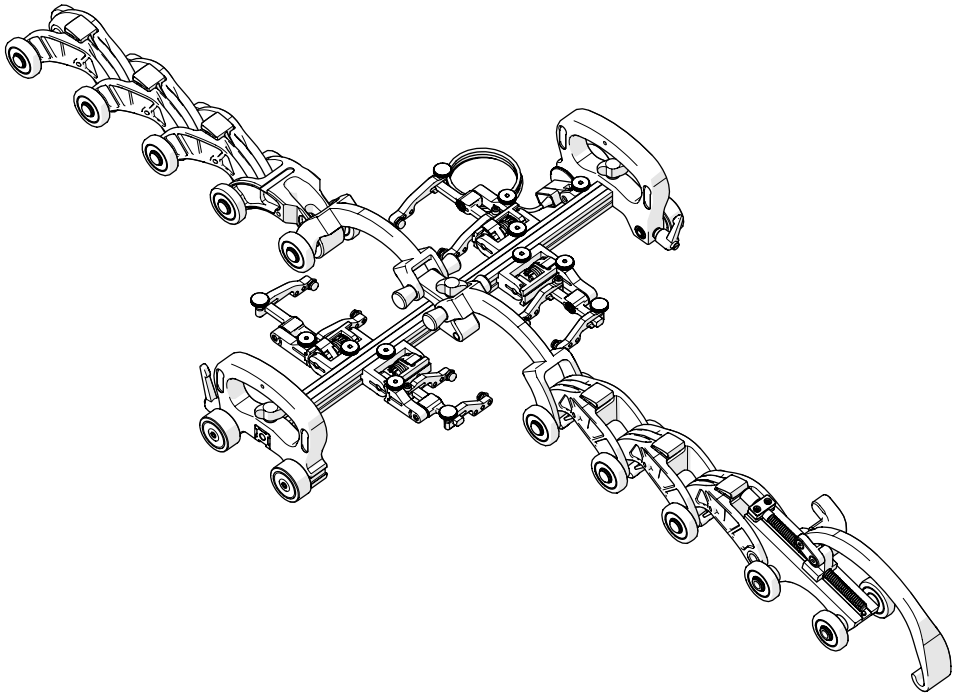

Fig. 106 - Assemble configuration
3. On a flat surface, connect the appropriate number of links (see *Connecting QuickLinks* on page 22) as indicated on the **ROTIX** setup chart. Arrange the link setup so the buckle and catch link will be 180° opposite the scanner body (Fig. 106).